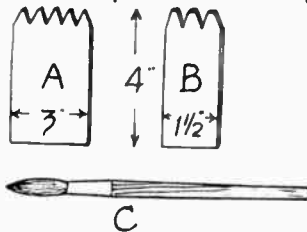

Fig. 1—The three tools needed
The tools needed are one or two combs, made in leather,  $\frac{1}{4}$  in. thick, and shaped as at Fig. 1 (A) and (B); a small hog's hair brush, known as a fitch, shown at (C) for lining work, that is putting in the grain on mahogany and walnut imitations, will also be required.